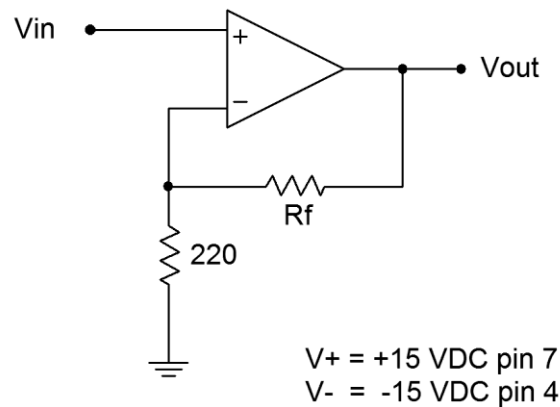

Figure 1
1. The upper break frequency, f_2 , of the amplifier in Figure 1 can be determined from its voltage gain and the f_{unity} of the op amp. Calculate the f_2 's for the amplifier of Figure 1 for the R_f values specified, and record them in Table 1.
2. Assemble the circuit of Figure 1 using the 4k7 Ω resistor.